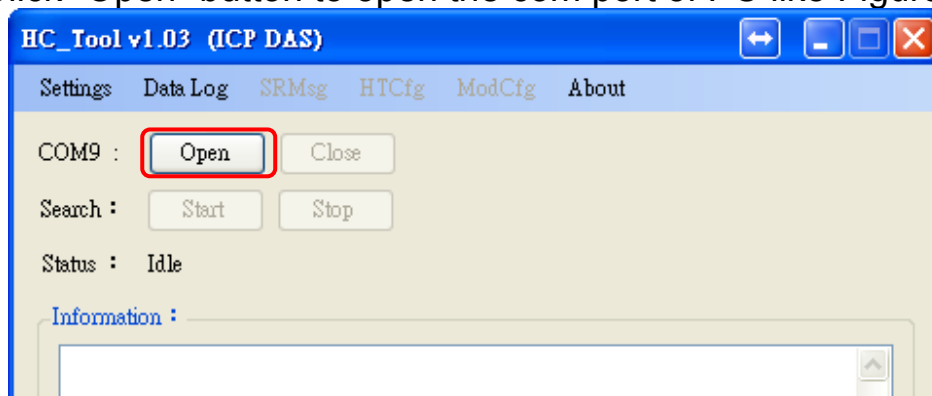

Figure 3-3: Click the “Open” button
Step3: Click “Open” button to open the com port of PC like Figure 3-3.